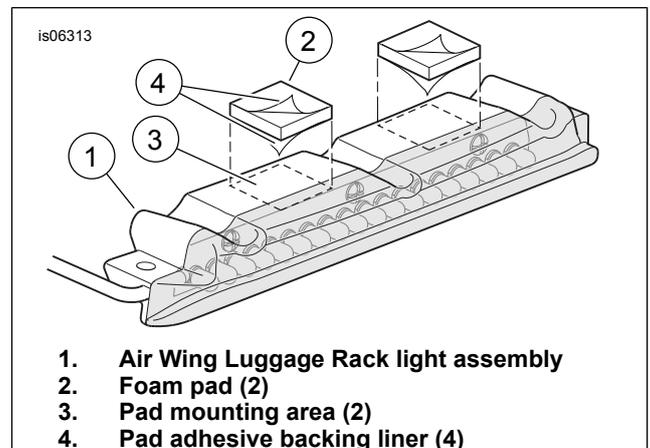

Figure 1. Attach Foam Pads to Light
4. Firmly attach the three wires of the light assembly (1) to the loop of the guide wire. Carefully pull the straight end of the guide wire to draw the wires and shrink tubing into and through the rail, and out the forward hole. Detach the light wires from the guide wire.
5. Clean the foam pad mounting areas (E) on the underside of the rack rear crossbar and (see Figure 1) on the light (3) with a mixture of 50-70% isopropyl alcohol and 30-50% distilled water. Allow to dry thoroughly.